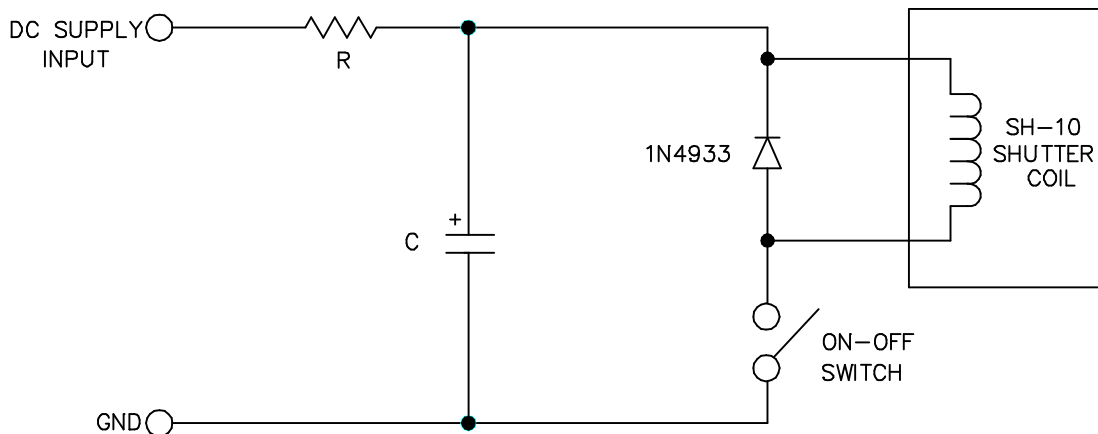

FIG. 2
2. THE POWER CONSUMPTION CAN BE REDUCED BY USING THE FOLLOWING "RC" CIRCUIT. (SEE FIG. 2 AND TABLE 2)